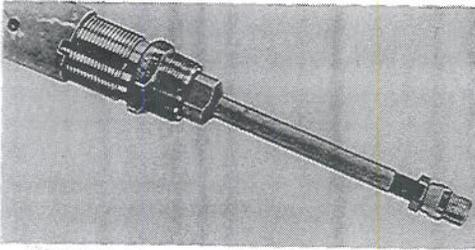

FIGURE 24
12. Advance boring bar. **Figure 24**.